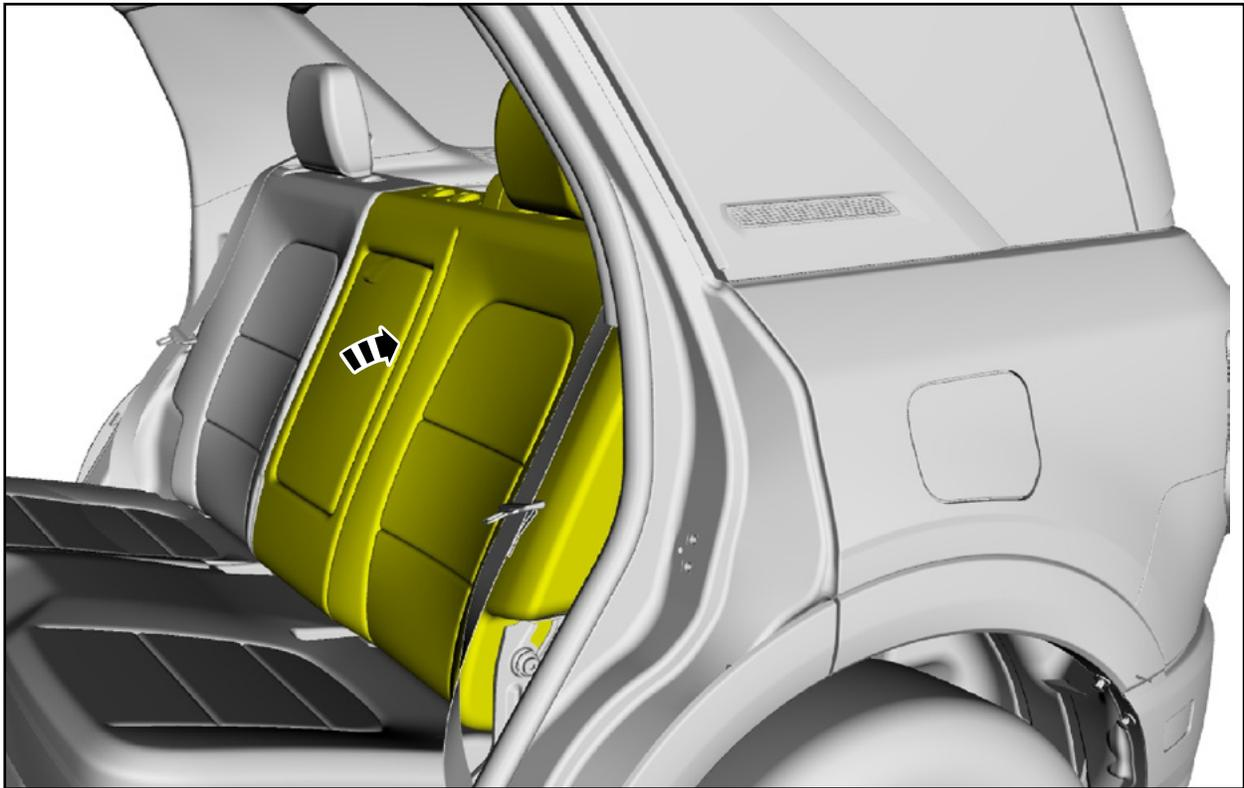

FIGURE 23
23. Position the rear seat backrest upward. See Figure 23.